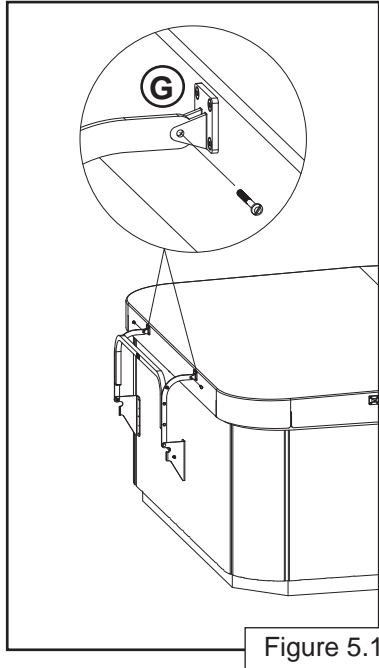

Figure 5.1
1. Unscrew Pan Head Screws attached to the Rear Hinges (G) (Figure 5.1).
2. Align both Pivot Assemblies (attached to the Crosslink assembly) inside the Rear Hinges and fasten using the two Pan Head Screws (Figure 5.1).